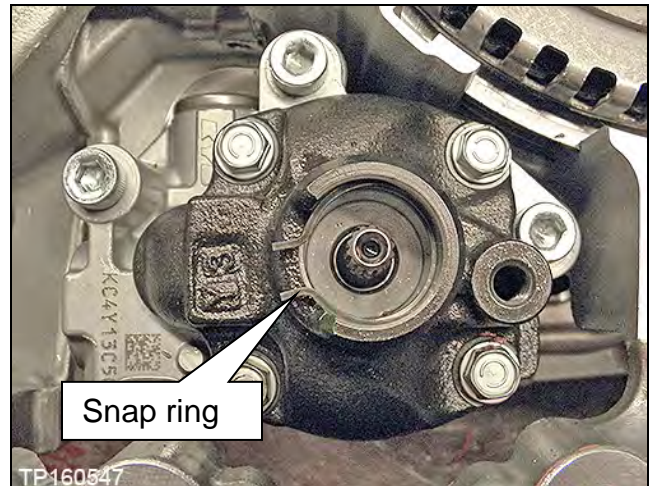

Figure 4D
4. Torque the three (3) Allen head bolts and fitting bolt.
5. Install the original snap ring (Figure 4D).